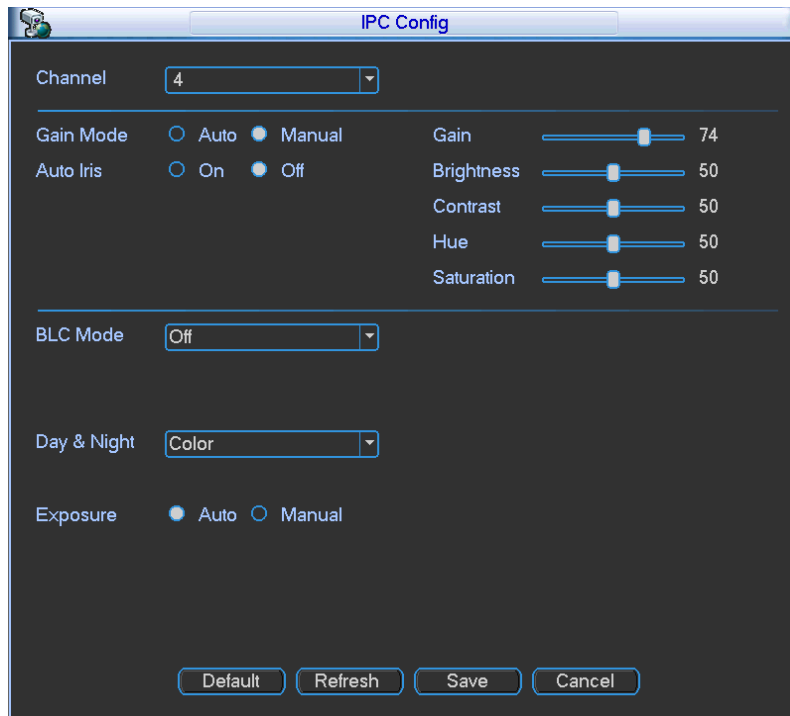

Figure 4-75
- IPC config: Double click the  on the IPC config column, you can go to the IPC setup interface. See Figure 4-75.